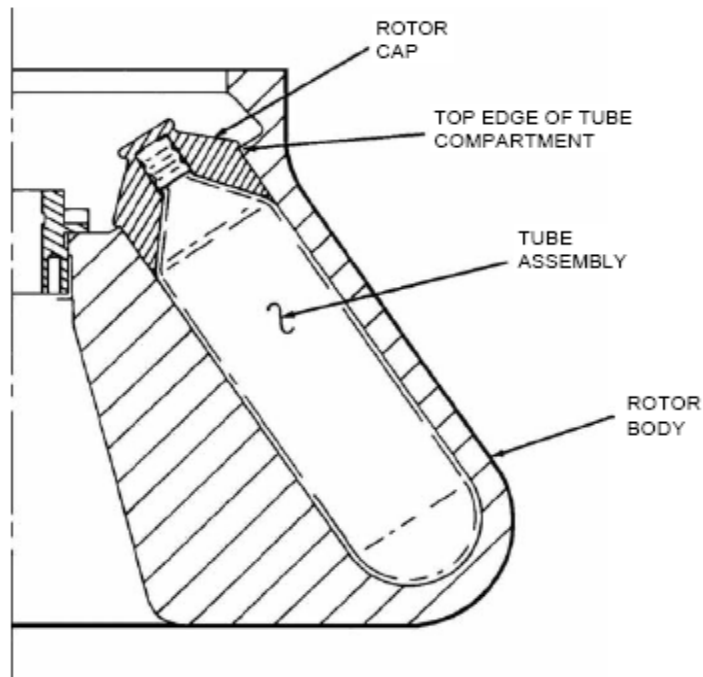

Figure 2-4. Properly Seated ULTRACRIMP® Rotor Cap
1. Gently load filled tubes into the tube compartments, balancing the rotor as described. If using ULTRACRIMP[®] tubes in the SA-300, insert a rotor cap (Catalog No. 03538) into each tube compartment that contains a filled tube. The rotor cap will seat against top edge of tube compartment (see figure 2-4).
The rotor speed/temperature differential graphs in figure 2-4 can be used as guides to determine the temperature setting (blue selector) required to maintain a desired sample temperature of 4°C or 20°C. The graphs are approximate since the actual temperature offset (the difference between indicated chamber temperature and sample temperature) depends on the efficiency of the condensing unit and the ambient temperature. The graphs given in figure 2-4 were created using an RC-5B PLUS Centrifuge, therefore, if you are using an RC-5, or RC-5B Centrifuge, the efficiency of the refrigeration system may vary. We recommend performing a test run based on the curves supplied, then adjusting the set temperature accordingly. The required offset is different for each specific rotor. To familiarize yourself with the information given in figure 2-4, refer to the following examples:
For runs at temperatures other than 4°C or 20°C, interpolate to find the set temperature using the appropriate rotor graph given in figure 2-4. Then, do a test run using that interpolated set temperature. Adjust the set temperature upward or downward accordingly. Example B below shows an interpolated set temperature.